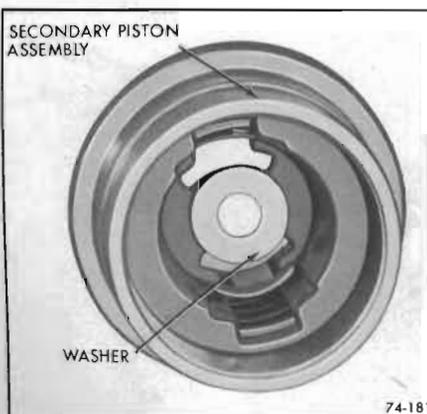

Figure 74-181
1. Install washer into secondary piston assembly. See Figure 74-181.